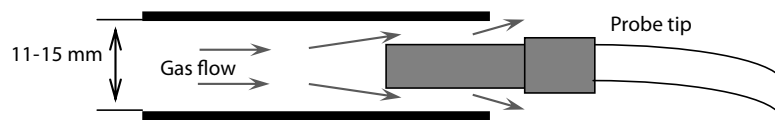

Figure E-2: Connect a hose to the gas regulator
e. Insert the probe tip (without protection cap) minimum 1 cm into the open end of the hose. See See Figure E-2: "Connect a hose to the gas regulator". There must be no pressure on the sensor.